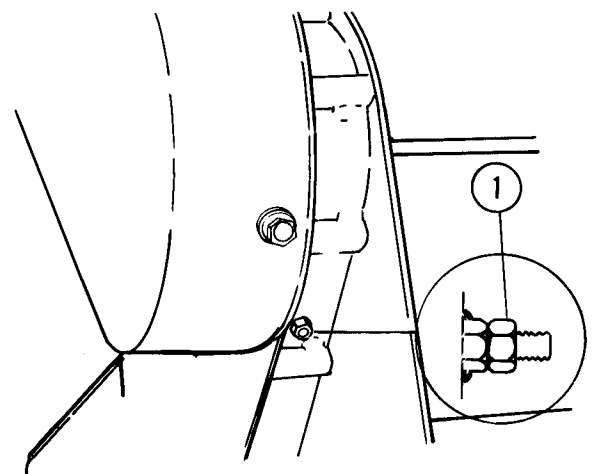

Fig. 15 — Enclosed Drive Chain
2. Loosen jam nut and turn the adjusting screw "in" until a slight drag is felt on chain, Figure 15.